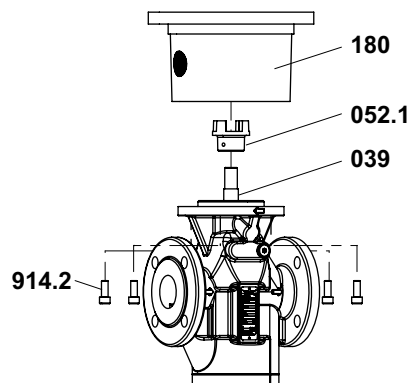

Fig. 3
5. Loosen the connecting screws 914.2 between the pump 001 and adapter housing 180 and remove the adapter housing, see Fig. 3.